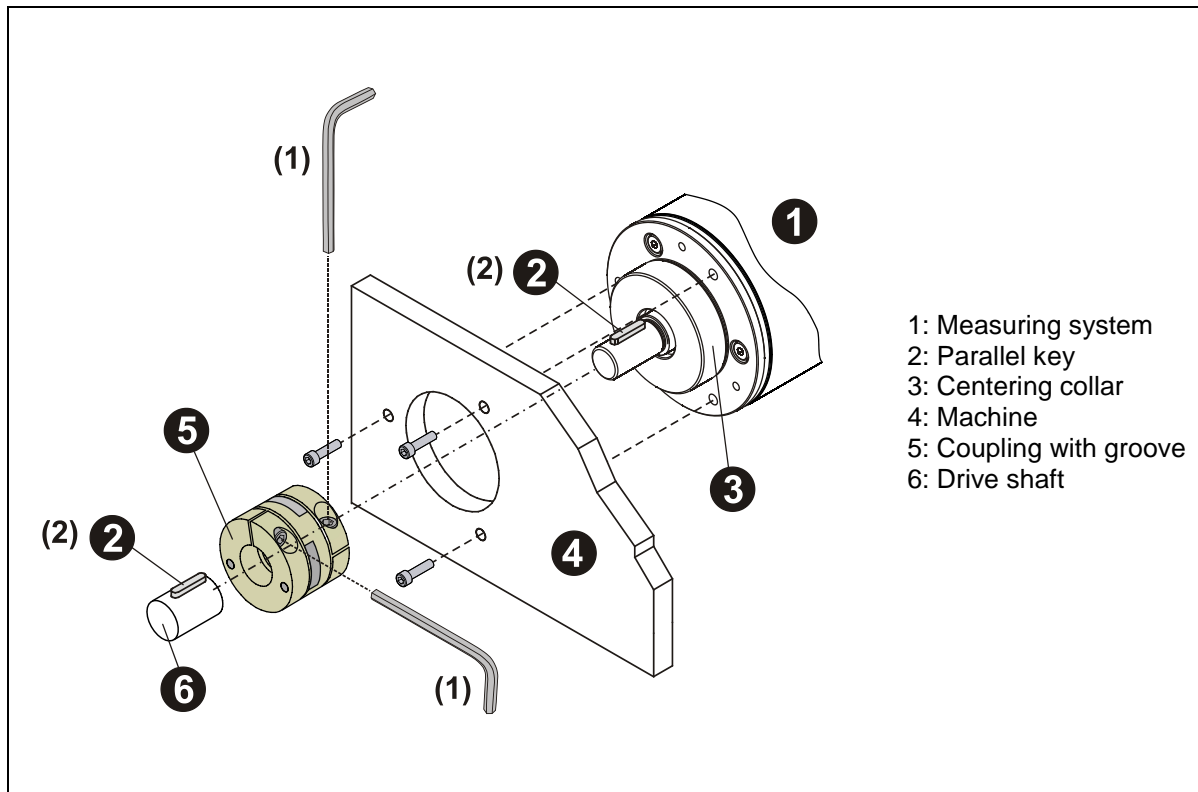

Figure 1: Flange mounting
- Axial slipping of the measuring system on the drive shaft must be prevented by the coupling fixing, see Figure 1, (1).
- Radial slipping (slip) of the measuring system on the drive shaft must be prevented by means of form closure by using a parallel key / groove combination (Figure 1, (2)); a coupling with groove must be used for this purpose.